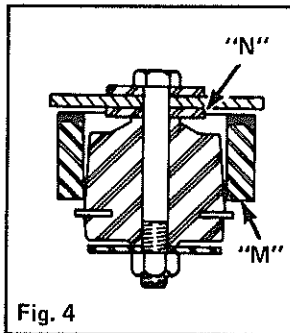

Fig. 4
8. Place round shock tube (M) Fig. 4 over R.H. front engine mount. Insert one flat washer (N) between cradle and rubber mount. Place flat washer on screw and insert (4) screws through cradle and mount. Secure using large flat washer and lock nut.